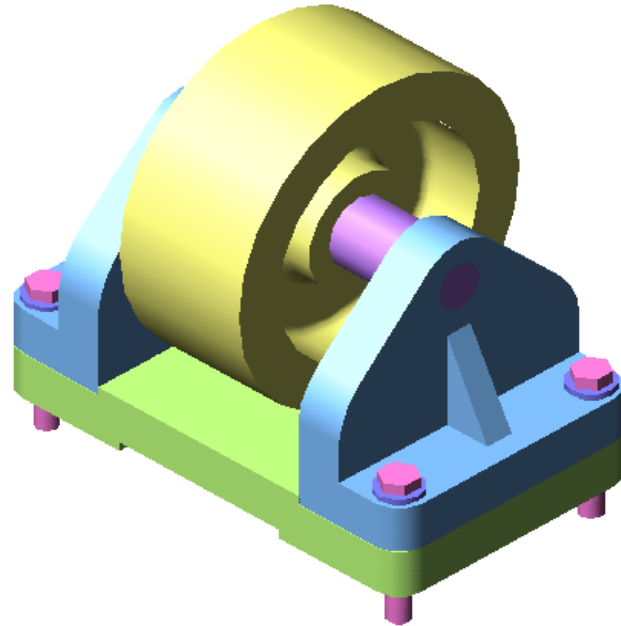

Figure Step 6
Step 6 Turn on all solid layers and turn off the layers: Pline and Construction. (Figure Step 6)